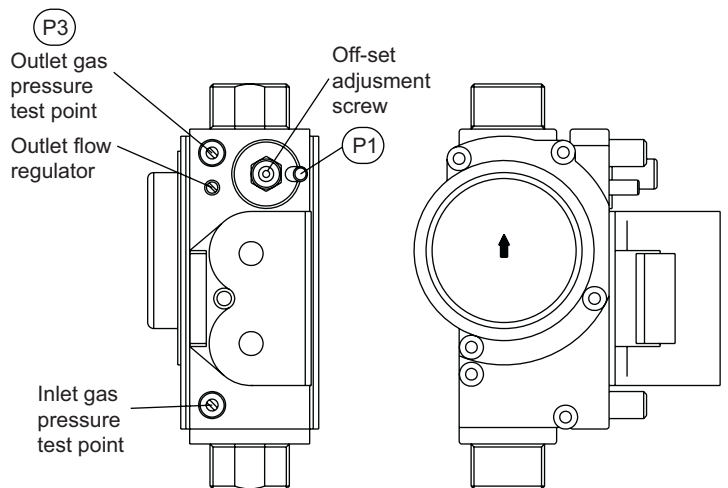

Fig. 23
2. Loosen the gas inlet pressure test point screw on the gas valve (see Fig. 23). Ensure the gas supply is on and open the boiler service cock to purge in accordance with BS 6891.